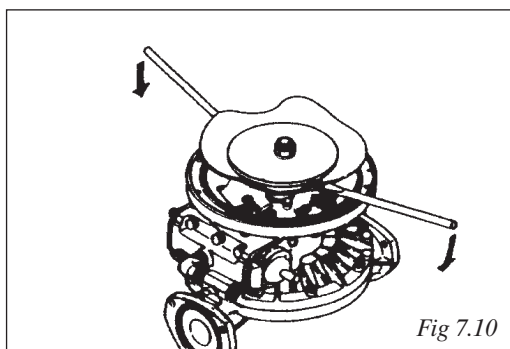

Fig 7.10
- Grip the inside center disk using crowbars and draw it to the opposite side, then turn the diaphragm over (exclude B_H, B_S types, see fig 7.10 and 7.11).